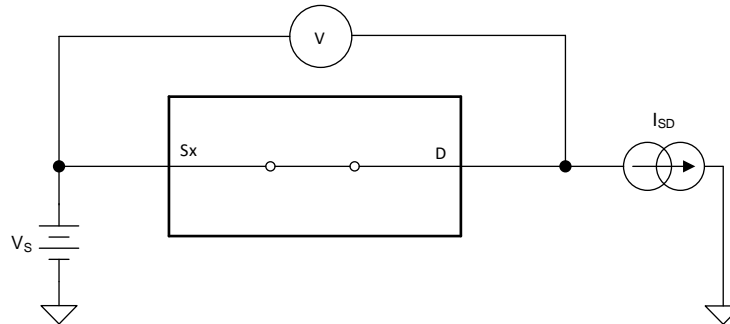

Figure 7. On-Resistance Measurement Setup
The on-resistance of a device is the ohmic resistance between the source (Sx) and drain (D) pins of the device. The on-resistance varies with input voltage and supply voltage. The symbol R_{ON} is used to denote on-resistance. The measurement setup used to measure R_{ON} is shown in Figure 7. Voltage (V) and current (I_{SD}) are measured using this setup, and R_{ON} is computed with $R_{ON} = V / I_{SD}$: